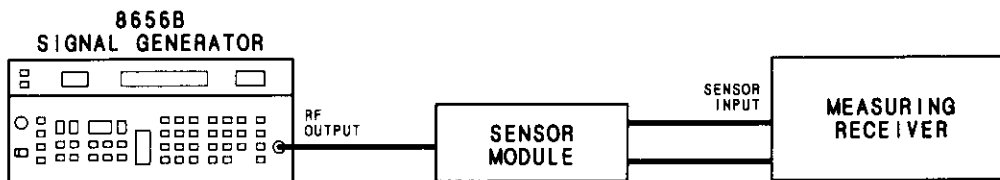

Figure 4-7. Output Level Accuracy and Flatness Test Setup
2. Connect the sensor module to the Signal Generator as shown in Figure 4-7.